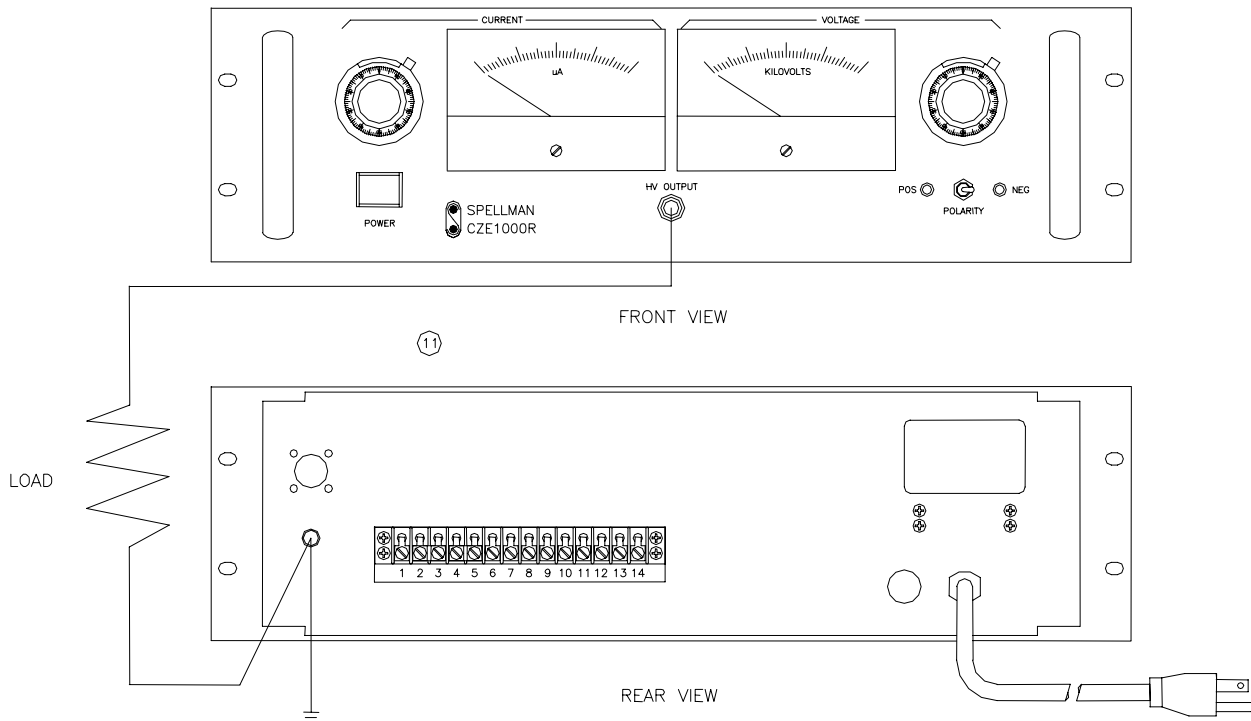

Figure 3.1
- C) **PROPER GROUNDING TECHNIQUE:** The chassis of high voltage power supplies must be grounded, preferably to a water system ground using copper pipe or other earth ground using the ground binding post at the rear of the unit. See Figure 3.1 for a typical operating setup.